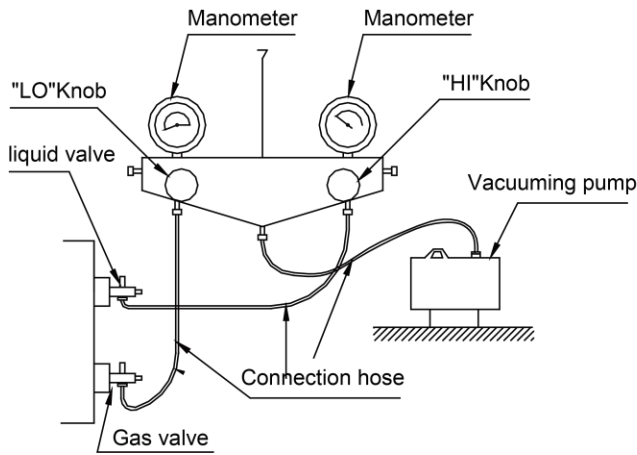

Fig.4.4.1
- (1) Confirm outdoor liquid and gas valves are closed. Air purging from the nozzle located on liquid and gas valves by vacuum pump See Fig. 4.4.1.